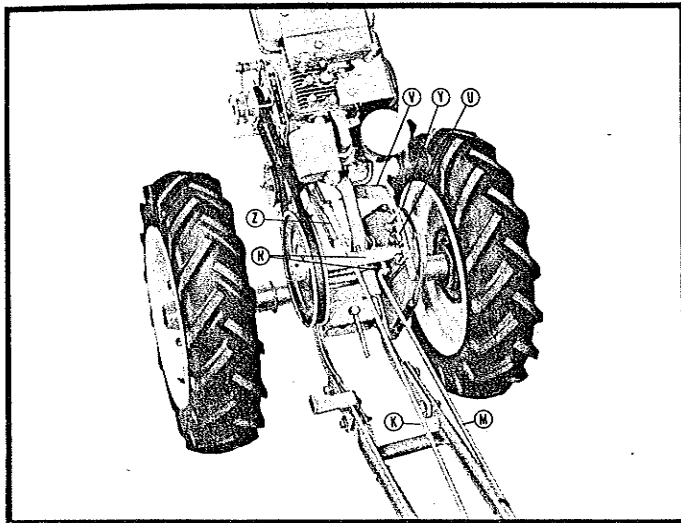
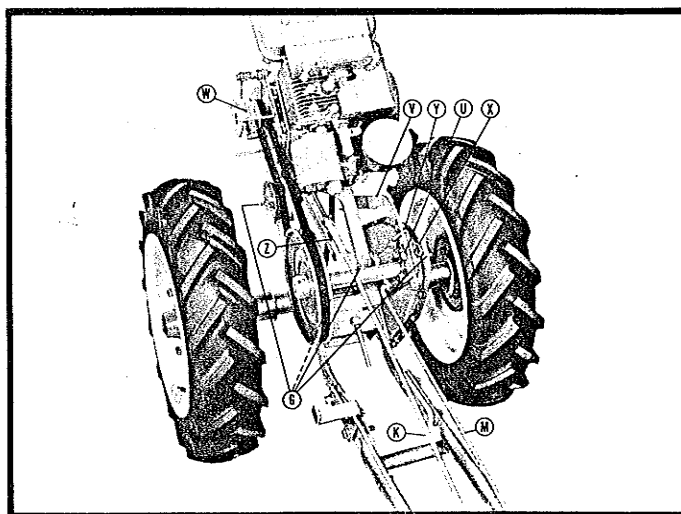

Fig. 2
Fig. 3
1. Bolt handles to the outside of tractor frame as shown. Handle bolts (F) are shipped inserted in the frame. NOTE: When bolting handles to the frame, be sure that the bushing, washers, clutch lever and lever stop are re-assembled in the same sequence as packed. To provide clearance for attachments, it is recommended that upper left handle bolt be installed head to outside as shown. Install the other three with heads to inside.
2. Attach clutch rod (G) to lower clutch lever (H) and to upper clutch lever (I) as shown.
3. Lower clutch lever (H) should rest on lever stop (J) when upper clutch lever (I) is forward.
4. Attach clutch rod (K) to idler arm as shown at (L). Figure 2 illustrates this assembly in detail.
5. Attach reverse rod (M, Fig. 2) to bearing housing (N, Fig. 2) as shown.
#### TWO FORWARD SPEEDS — See Fig. 2 and Fig. 3
The Model LC tractor has two forward speeds. Engine pulley position for these speeds are illustrated in Figures 2 and 3. Figure 2 illustrates the High Speed, recommended for all attachments except tiller. Notice in Figure 2 that the lock bar pin (U) is located in second hole from rear of lock bar (V). When changing to low speed, please refer to Figure 3. Remove Belt. Loosen engine pulley set screw (W), remove engine pulley,
turn it around and replace with large pulley to outside as shown in Figure 3.
Remove spring clip (X) and lock bar pin (U). Pull transmission slightly to the rear so that pin (U) will enter rear hole as shown in Figure 3. To facilitate this adjustment, a convenient handle (Y) is provided. Replace spring clip (X) to hold pin. Replace tractor drive belt. After changing from one speed to another, adjust set collar on spring (Z) so spring is compressed approximately  $\frac{5}{8}$ " when clutch lever (T, Fig. 1) is pulled back over center. To avoid damaging belt, use minimum tension required to drive the tractor. To avoid creeping and to afford proper declutching of tractor, belt stops should be adjusted to  $\frac{1}{8}$ " of the belt when the belt is tight.
There are four high pressure grease fittings on the tractor, one grease fitting on the idler pulley, one on the main axle housing, one on the gear case and one on the bearing housing. **They are located in Fig. 3 and designated with letter (G).** Grease the idler pulley every 4 to 6 hours of use. Grease the main axle housing every 12 to 15 hours of use. The gear case housing will require a few shots of grease every 40 to 50 hours of use. Lubricate the bearing housing every 5 to 6 hours of operation. Use a general purpose semi-solid grease in the grease gun supplied with the tractor.